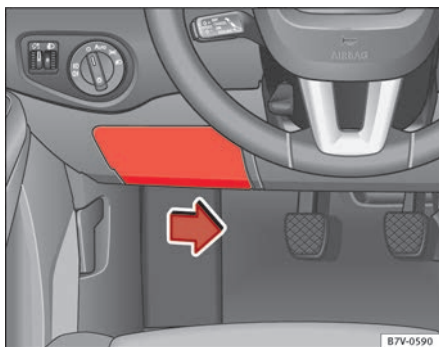

Fig. 199 On the driver-side dashboard: fuse box cover.
- To remove the cover, move the activation lever in the lower part to the right ⇒ fig. 199.